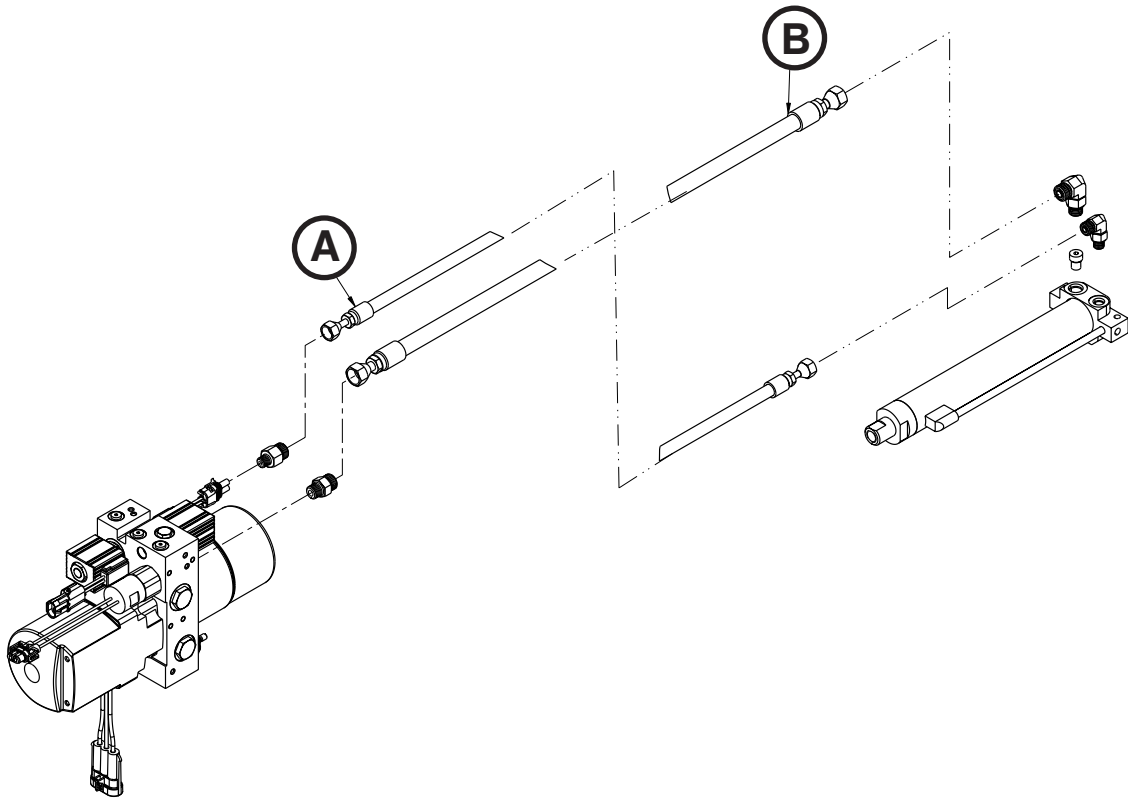

Figure 100
3. Using 11/16" and 13/16" combination wrenches, remove the damaged hose (A or B) (Figure 100).